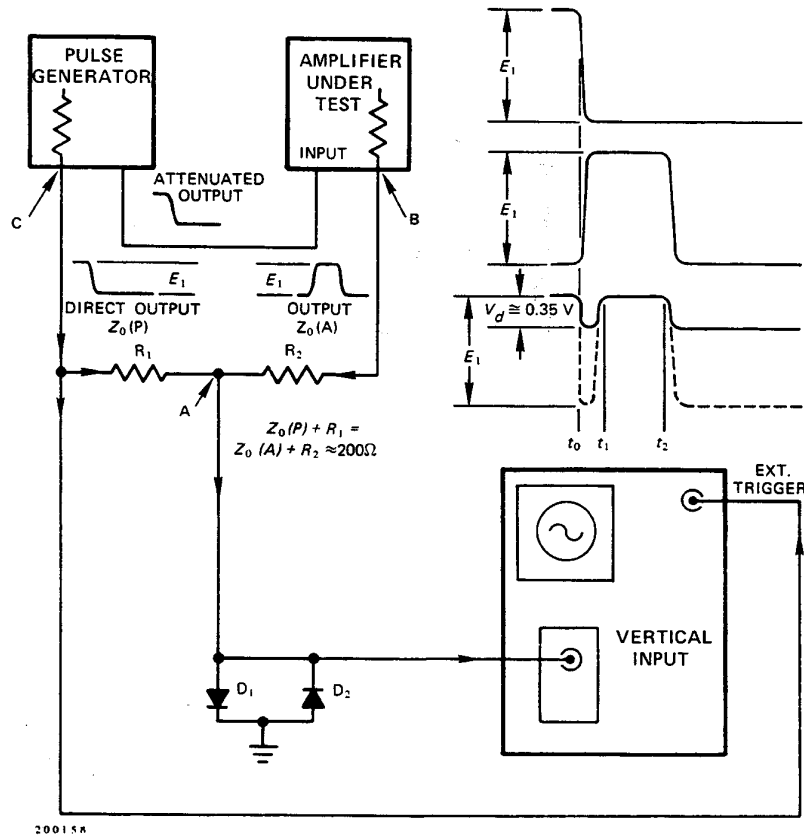

Fig. 4.5. Measuring Linearity by the Null-Balance Method.
**Amplifier Linearity Measurements** The measurement of amplifier linearity can be quickly and simply done by utilizing the method outlined in Fig. 4.5. The method consists of bucking out two voltage signals from low-impedance sources and measuring the amplitude differential at a null point.
The following conditions of Fig. 4.5 should be considered when linearity measurements are made. The output impedance of the Direct Output must be  $100\Omega$ . The amplifier must be set in the inverting mode of operation; i.e., for the negative input shown, the amplifier must produce a positive
Initially the output of the Pulser and amplifier should be set for 10 V. This should be measured with cars, and consideration should be given for the output impedance of both the Pulser and amplifier. By observing the waveshape at point A (Fig. 4.5), the fine gain of the amplifier and the attenuation controls should be adjusted until a null is obtained